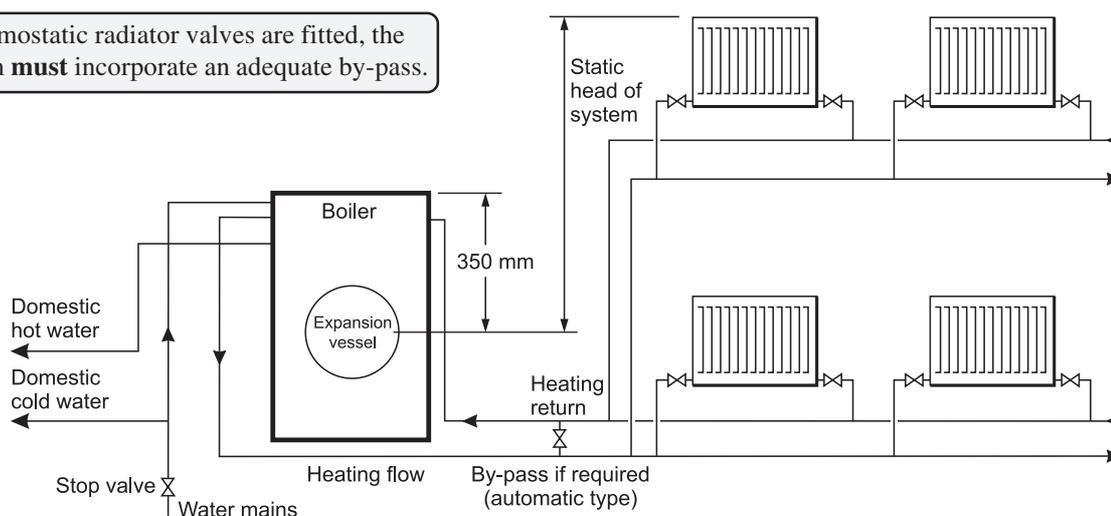

Fig. 16 - Sealed system
See Fig. 16
- 4 The system design pressure (cold) should be between 0.5 and 1.0 bar. This pressure is equivalent to the maximum static head (see Fig. 16) in bar + 0.3 (1 bar = 10.2 metres of water).